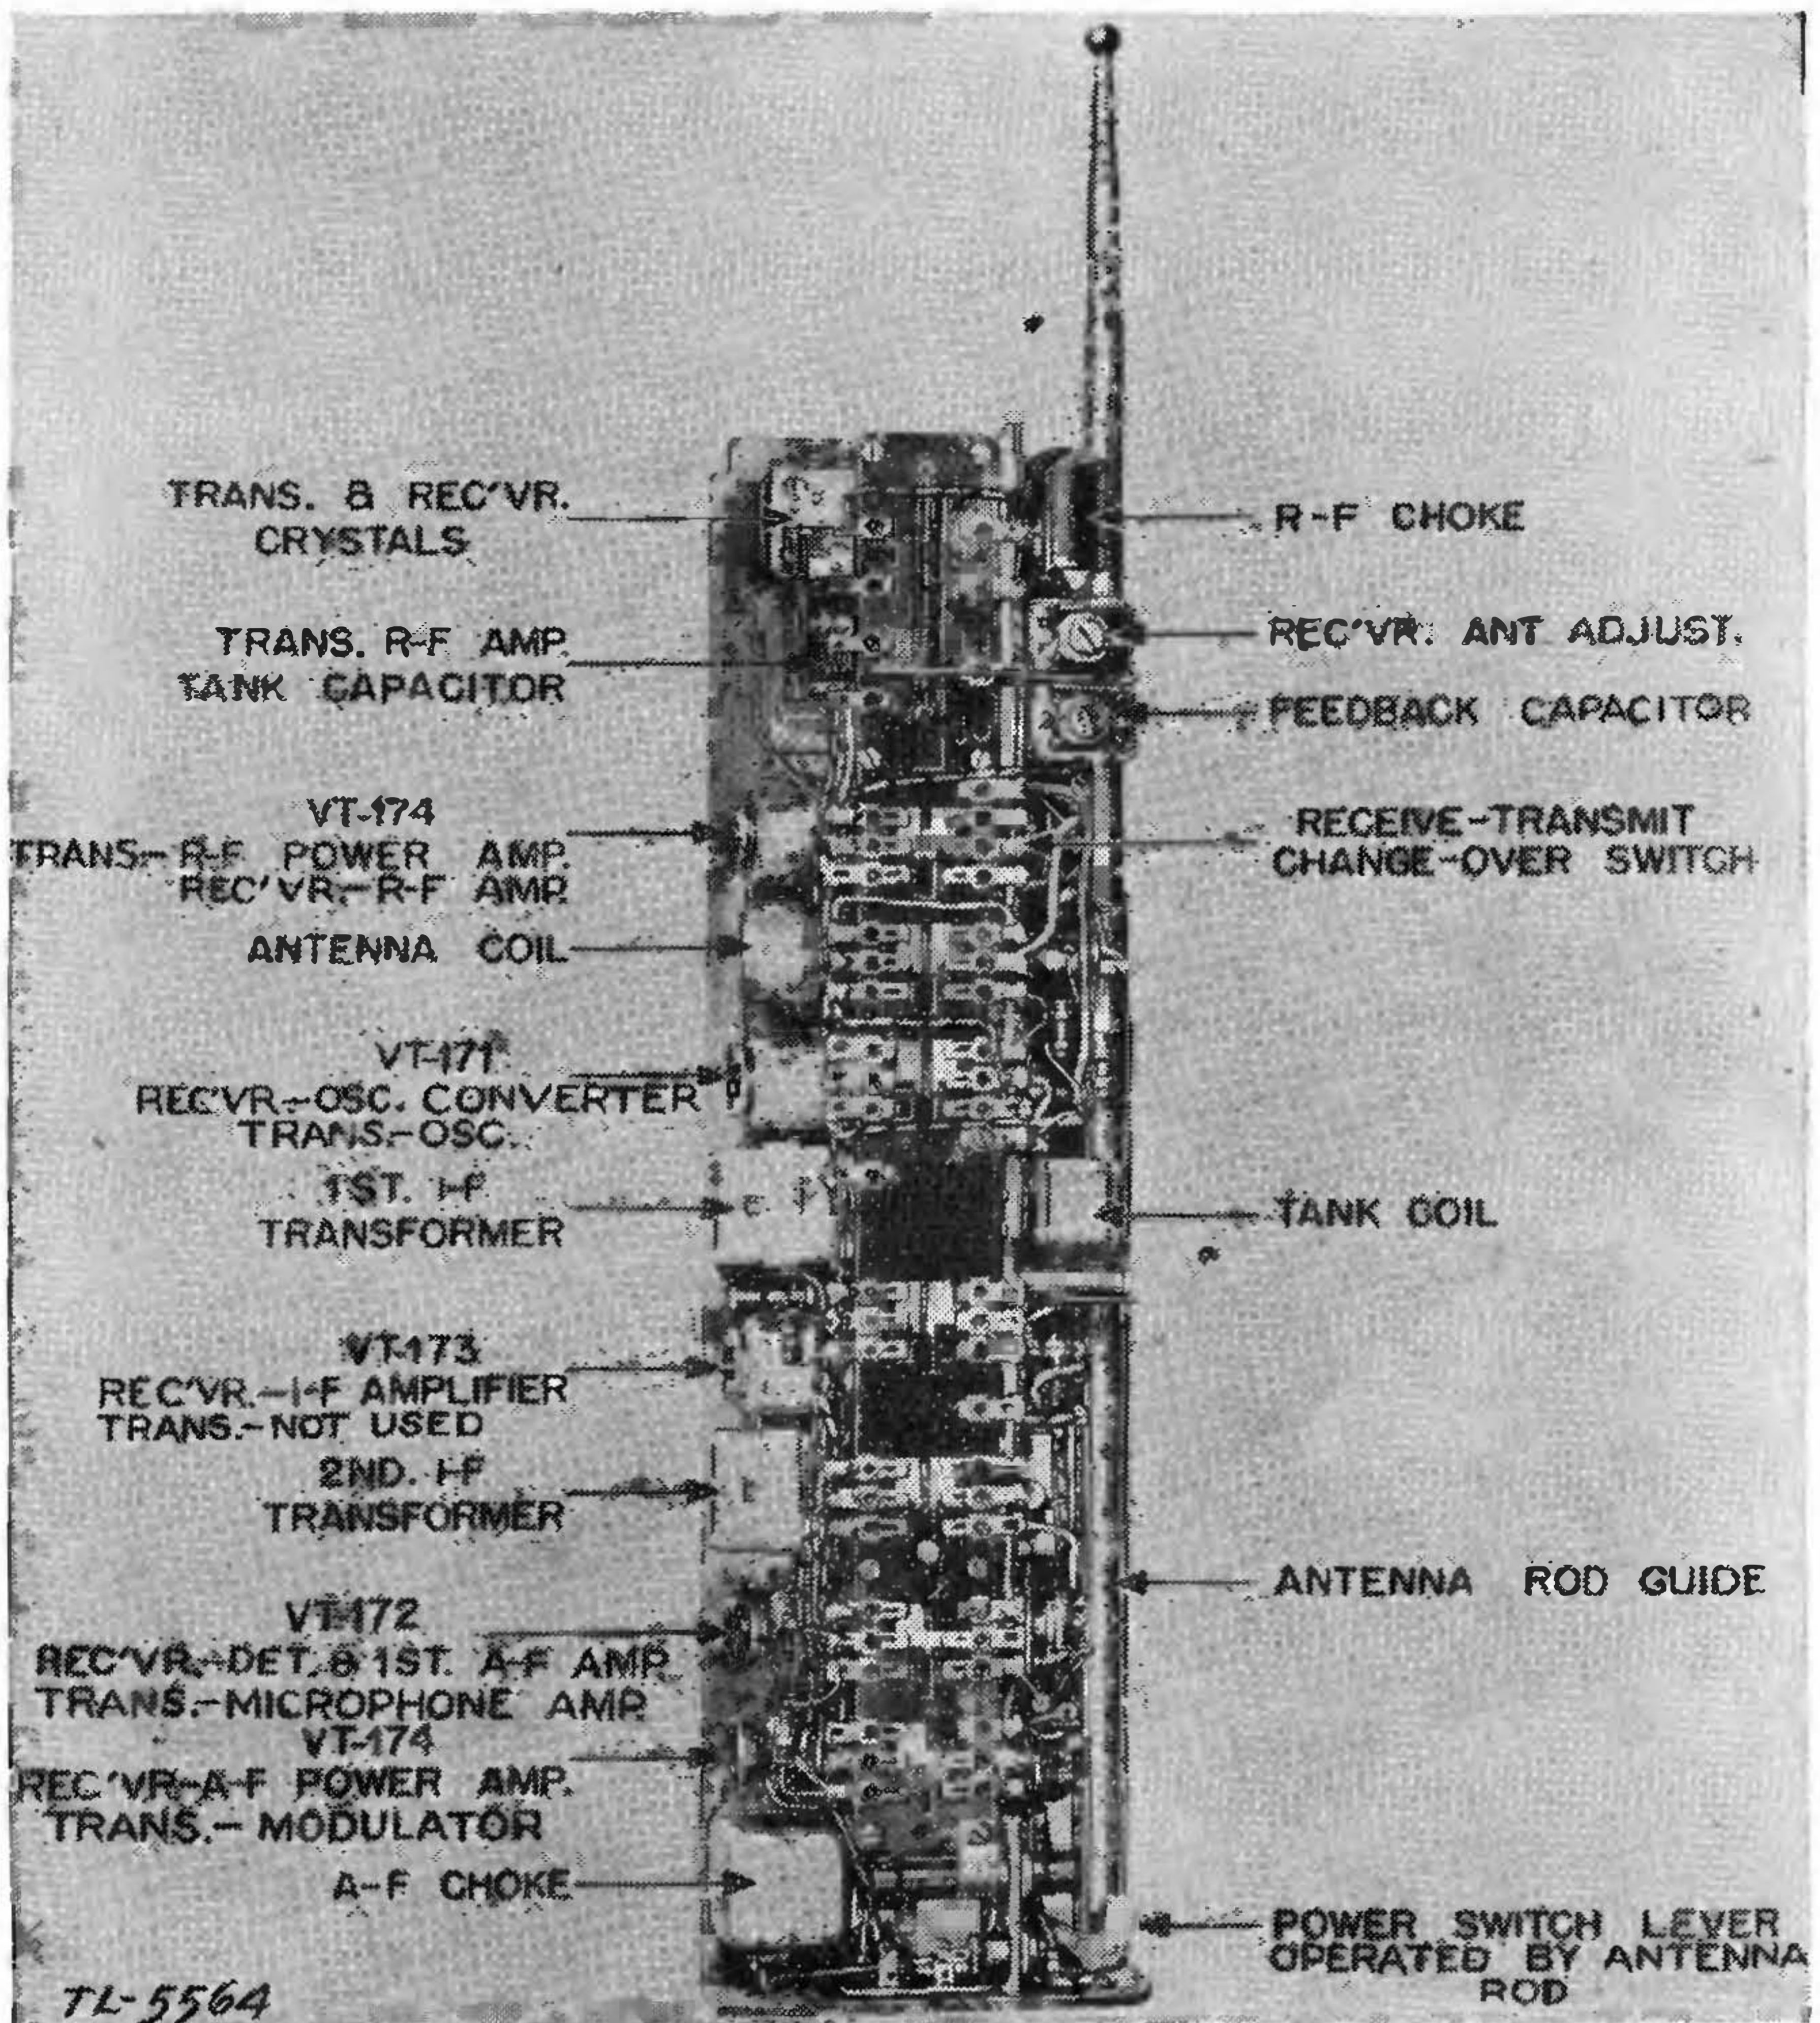

FIGURE 10.—Radio receiver and transmitter BC-611-(\*)—front view of chassis.
41. **Replacement of tubes.**—Remove the chassis from the housing. To do this, unfasten the bottom cover of the housing and remove the batteries. Disconnect the microphone and earphone plugs from the terminal board on the end of the chassis by gently pulling out. Plugs and jacks are color coded with small spots of color: green for microphone and red for earphone. Remove the mounting screw in the top cover of the housing, and the chassis can be slid out of the bottom of the housing. Lift the tube retainer bracket at the top of the tube and remove the shield, if there is one. Insert a narrow rod through the bottom center of the tube socket and gently force the tube out. A small narrow-bladed screw driver will be found useful for this purpose. When replacing the tube, be sure it is the right type, that the base of the tube is so turned that the pins fit into the socket properly and are straight. The wide space between pins 1 and 7 of the tube can be used as a guide to line the tube with the socket. (See fig. 10.)
**55. Removal and replacement of coils and crystals.—***a. Antenna coil.*—Remove the plug-in antenna coil by carefully lifting it out of its socket. See figure 10 for its location. In its place insert another coil of the desired frequency.
*c. Crystals.*—The crystals are mounted in plug-in type holders. (See fig. 10.) To remove a crystal, lift up the clamp located on top of the crystal holder. This clamp pivots on a stud fastened to the chassis. Place a small screw driver between the crystal holder and the socket and gently pry it up. To remove the other crystal holder, the same procedure is followed. Select a transmitter and a receiver crystal holder of the desired frequency (the frequency of the transmitter crystal will be the same as that of the coils, while the receiver crystal will be 455 kc higher in frequency). Insert the receiver crystal holder in the crystal socket marked REC. It should be inserted so that the frequency printed on the metal side faces out and the
**70. Changing coils and crystals.**—*a. Antenna coil.*—Remove the plug-in antenna coil by carefully lifting it out of its socket. See figure 10 for its location. In its place insert another coil of the desired frequency.
*c. Crystals.*—The crystals are mounted in plug-in type holders. (See fig. 10.) To remove a crystal, lift up the clamp located on top of the crystal holder. This clamp pivots on a stud fastened to the chassis. Place a small screw driver between the crystal holder and the socket and gently pry it up. To remove the other crystal holder, the same procedure is followed. Select a transmitter and a receiver crystal holder of the desired frequency. (The frequency of the trans-